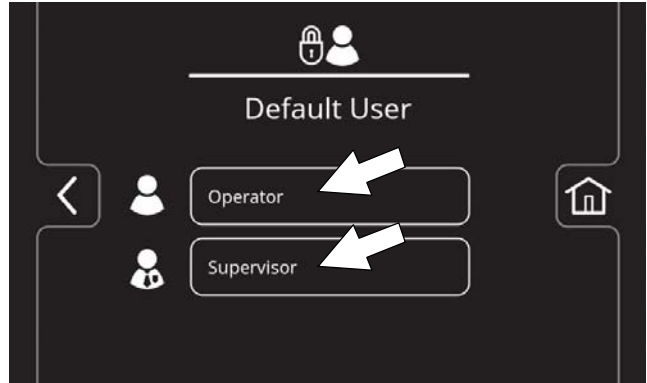

FIG. 179
6. Press either the Operator button or Supervisor button to select desired user profile as your home screen default without login (Figure 179).